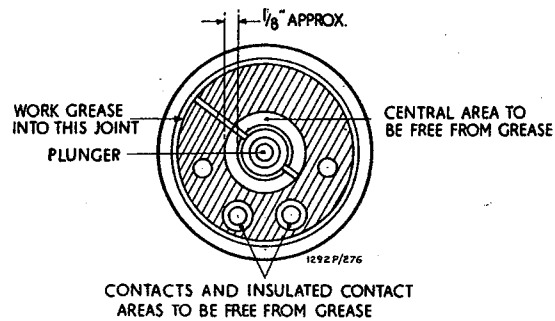

Fig. 5 Solenoid greasing details
12.8.4 Refer to fig.5 and coat solenoid mounting face with grease MS-4.